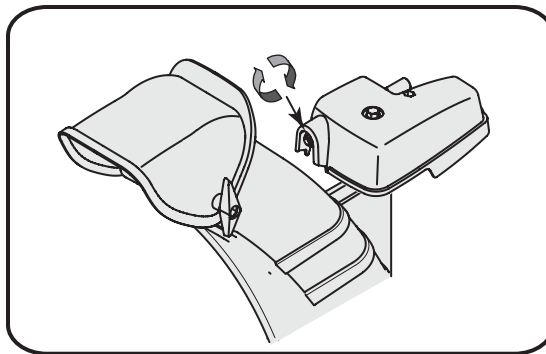

Figure 5-3
- While preventing the chute control rod from turning tighten the nut on the chute gearbox assembly. See Figure 5-3.